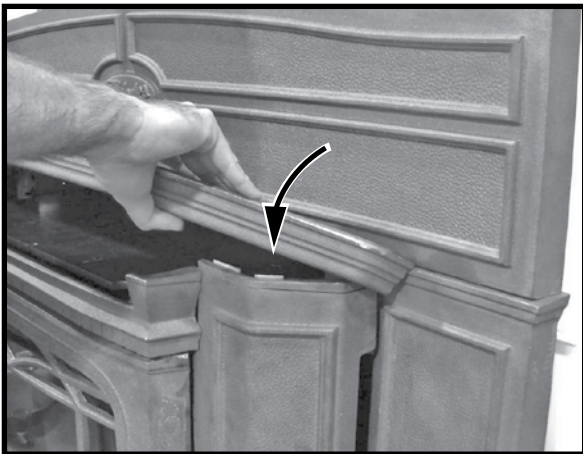
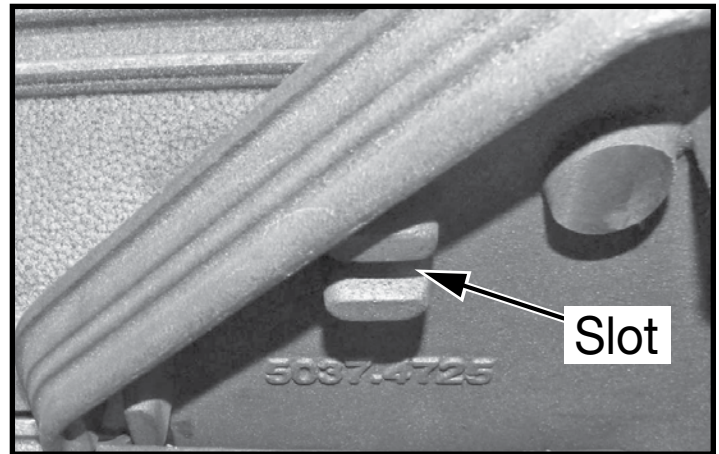

Figure 17: Decorative cover installation.
Figure 18: Positioning slots on underside of Top
8. Install the cast decorative top by tilting it at a slight angle, sliding it under the surround top and over the casing top, if it doesn't fit loosen the bolts on the back of the surround sides, then retry. set it over the fan shields (Figure 17). Be sure to engage the top of the fan shield into the slots on the underside of the cast decorative top (Figure 18). This may require moving the fan shields around slightly to get the parts aligned.